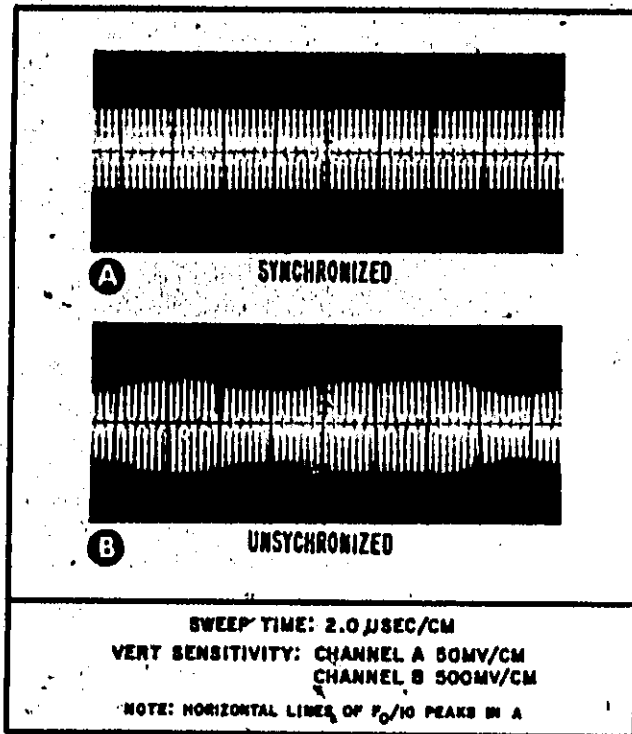

Figure 5-9. Divider Output at Edge of Band
s. Vary frequency of the 606A about  $f_0$  to check the divider bandwidth. See Figure 5-9. The band edge should always be determined by the transition point when going from unsynchronized operation to synchronized operation.